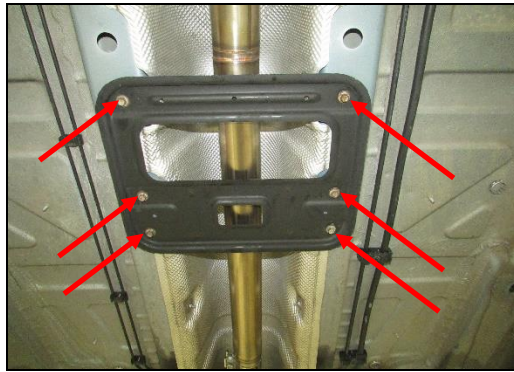

Figure 7
2. Install the cross brace tighten (x6) 10mm bolt heads (**Figure 7**).